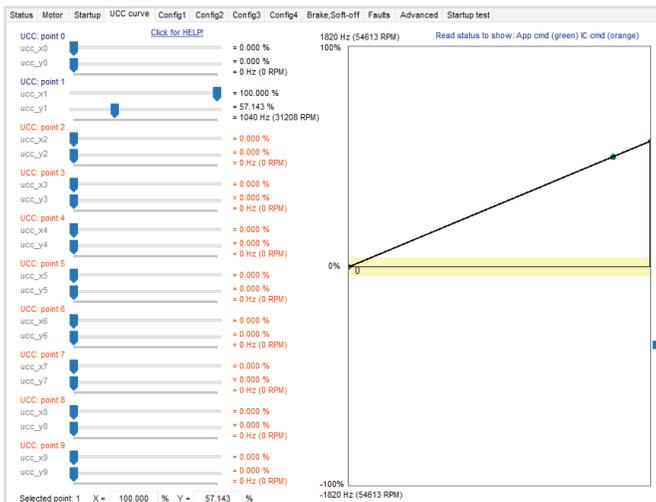

Figure 43: UCC Set to Maximum Speed For Motor Used
- NOTE: the SFOC_FREQ_RES parameter has four settings. Each setting corresponds to one of four maximum system speeds (455 Hz, 910 Hz, 1820 Hz, and 3641 Hz) as shown in the motor tab. The maximum system speed must be faster than the maximum motor speed. For example, if the maximum speed of the motor is 1000 Hz, the maximum system speed should be set to 1820 Hz, and use of the UCC is recommended to set the maximum speed at 1000 Hz at 100% duty, as shown in Figure 43.